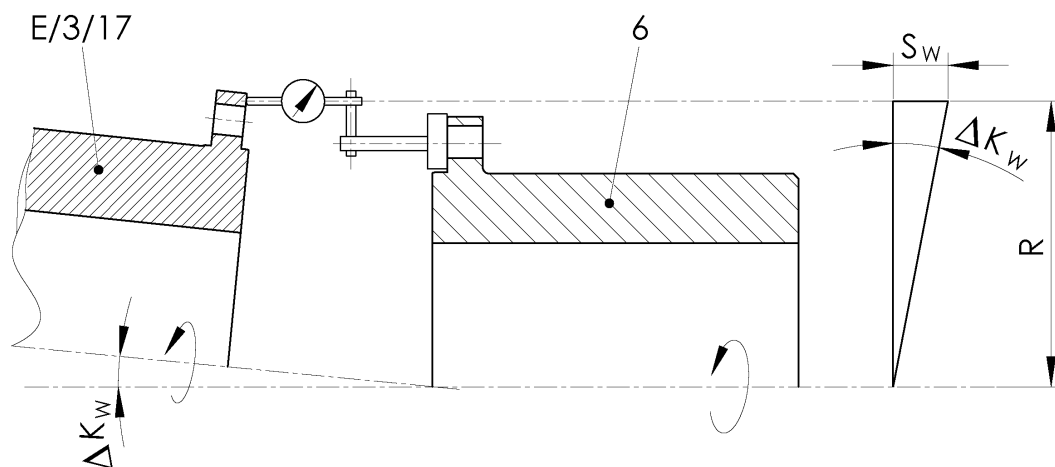

Fig. 5-3 Angular misalignment
- Measure the angular misalignment (see Fig. 5-3).
- Turn the flange/hub/adaptor (E/3/17) with dial gauge and hub (6) slowly by 360°.